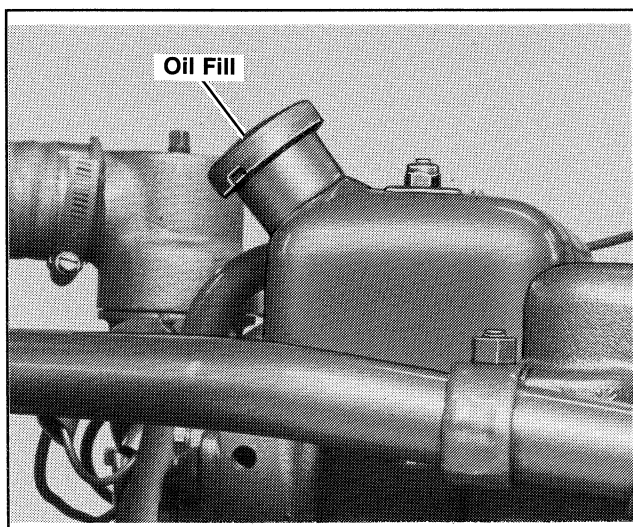

Figure 3-9. Oil Fill Location- Perkins
3. Add recommended oil type and amount to filler neck at cylinder head valve cover, see Figure 3-9. For proper oil capacity see Section 1. Specifications Engine.